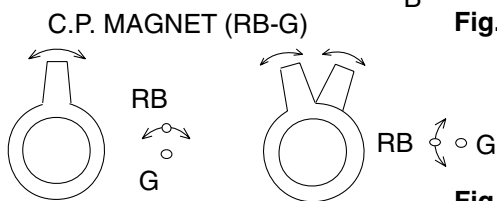

Fig. 9
3. Align red / blue with green dots at the center of the screen by rotating (RB-G) C.P. Magnet. (See Fig. 9.)